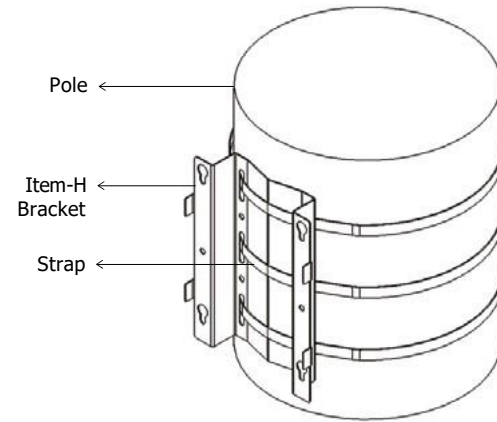

Figure 15: Installation of mounting bracket on pole
- Identify the location on the pole for installation. Place the mounting bracket against the pole with the flanges facing away from the pole as shown in Figure 15.